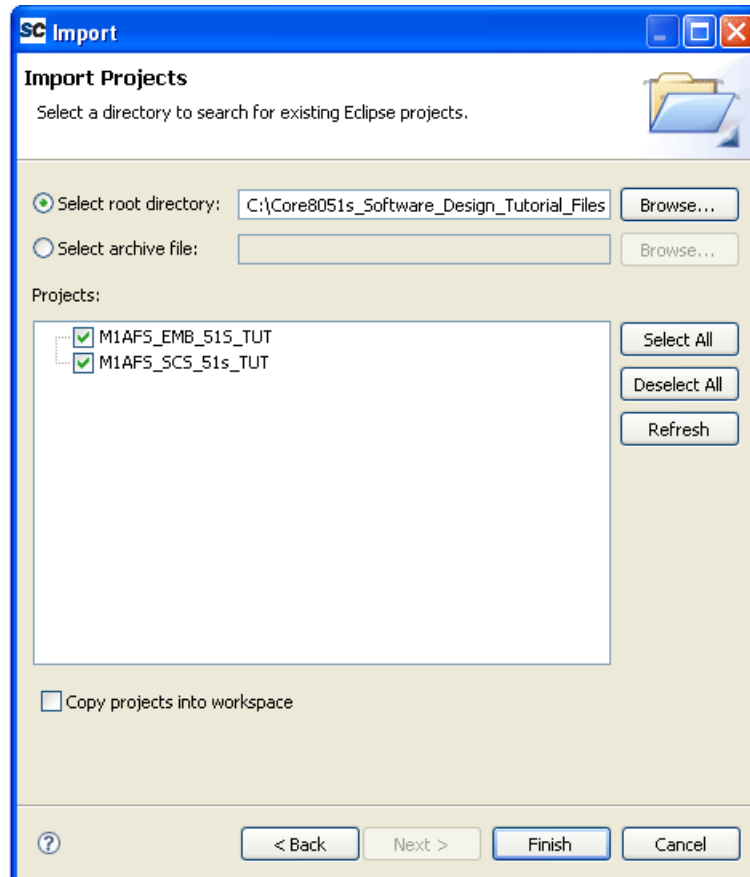

Figure 3-7 · Importing Projects into the Workspace
- Use the **Browse** button in the Select root directory box to navigate to the folder that contains the project(s) to import and click **OK**. The project(s) are now listed in the Import Projects box (Figure 3-7). Select the projects you want to import and press **Finish**.